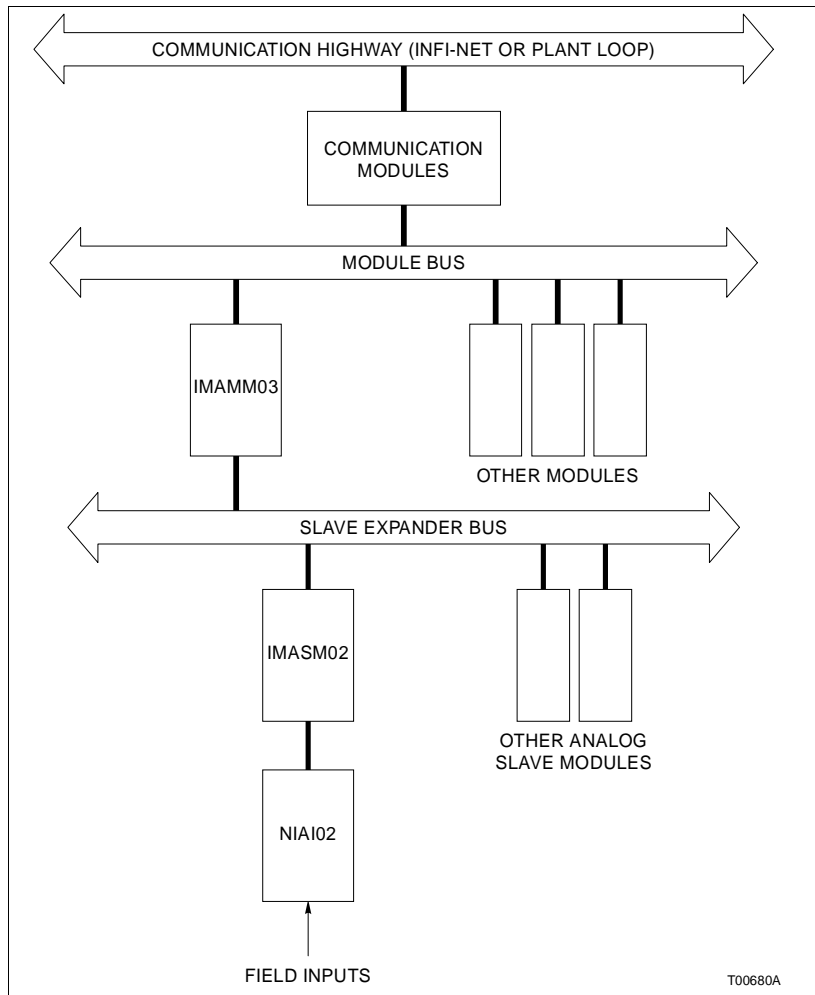

Figure 1-1. Application Example for NIAI02
The NIAI02 is a single printed circuit board that uses one slot in a Termination Mounting Unit (NTMU01/02). The termination module (TM) has one card edge connector, P1. It connects to the slave module through a cable. The terminal blocks for field wiring are on the TM. The NIAI02 handles up to 8 thermocouple inputs for the IMASM02. Each input may be thermocouple or millivolt from -100 to +100 millivolts or 0 to 100 millivolts. Figure 1-1 shows an application example for the NIAI02.